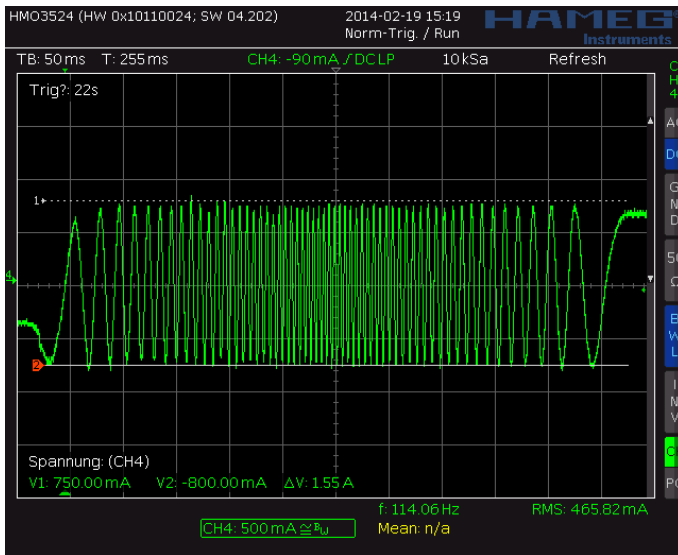
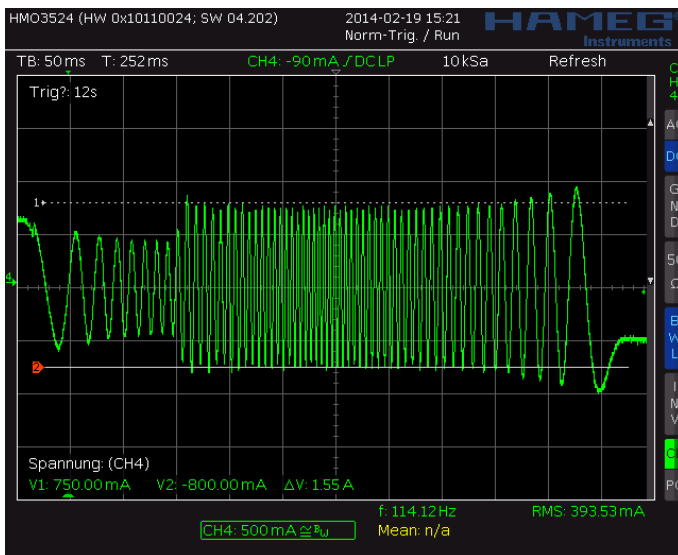
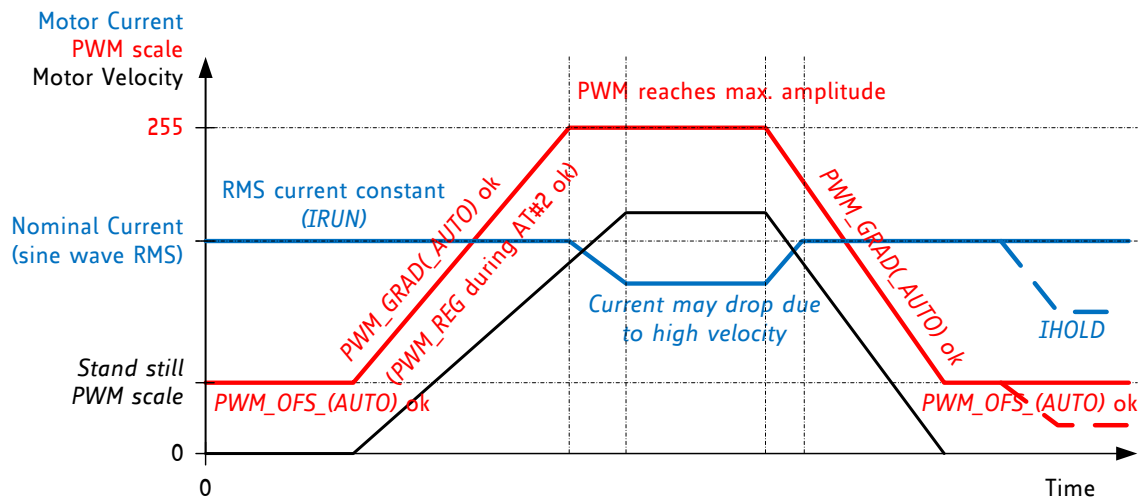

Figure 6.3 Scope shot: good setting for PWM\_REG
Figure 6.4 Scope shot: too small setting for PWM\_REG during AT#2
Figure 6.5 Successfully determined PWM\_GRAD(AUTO) and PWM\_OFS(AUTO)
In stealthChop voltage PWM mode, the autoscaling function ( $pwm\_autoscale = 1$ ,  $pwm\_autograd = 1$ ) regulates the motor current to the desired current setting. Automatic scaling is used as part of the automatic tuning process (AT), and for subsequent tracking of changes within the motor parameters. The driver measures the motor current during the chopper on time and uses a proportional regulator to regulate  $PWM\_SCALE\_AUTO$  in order match the motor current to the target current.  $PWM\_REG$  is the proportionality coefficient for this regulator. Basically, the proportionality coefficient should be as small as possible in order to get a stable and soft regulation behavior, but it must be large enough to allow the driver to quickly react to changes caused by variation of the motor target current (e.g. change of  $VREF$ ). During initial tuning step AT#2,  $PWM\_REG$  also compensates for the change of motor velocity. Therefore, a high acceleration during AT#2 will require a higher setting of  $PWM\_REG$ . With careful selection of homing velocity and acceleration, a minimum setting of the regulation gradient often is sufficient ( $PWM\_REG=1$ ).  $PWM\_REG$  setting should be optimized for the fastest required acceleration and deceleration ramp (compare Figure 6.3 and Figure 6.4). The quality of the setting  $PWM\_REG$  in phase AT#2 and the finished automatic tuning procedure (or non-automatic settings for  $PWM\_OFS$  and  $PWM\_GRAD$ ) can be examined when monitoring motor current during an acceleration phase Figure 6.5.